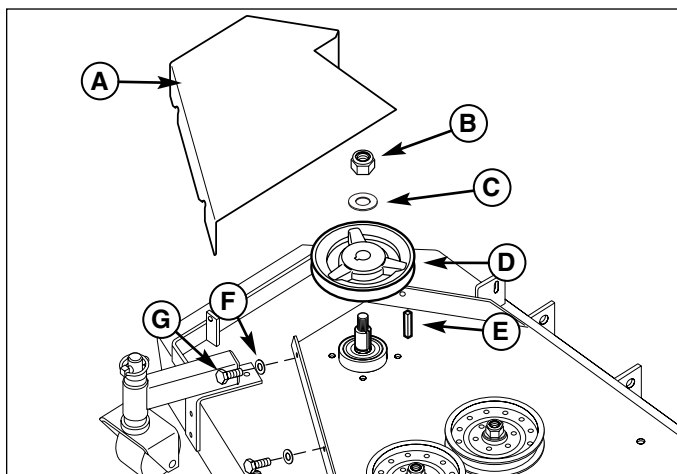

Figure 14. Belt Guard & Pulley Removal
1. Remove the right-hand belt guard (A, Figure 14) and save. Remove and discard the two front 5/16-18 x 1" bolts (G), 5/16" washers (F) and 5/16" body clips.
3. Remove the right-hand spindle pulley (D), 5/8" nylon lock nut (B), 5/8" washer (C) and 1/4" key (E). Use a block of wood to keep the blade from spinning while removing the 5/8" nut.